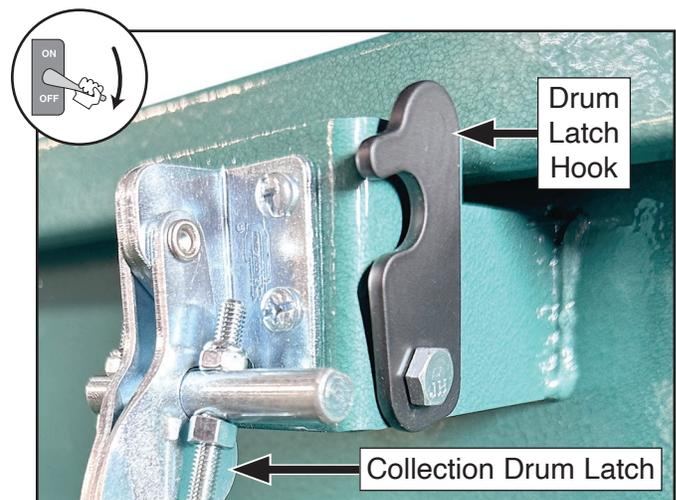

Figure 105. Location of drum latch hook.
2. Lift drum latch hook to unlock collection drum latch (see **Figure 105**).